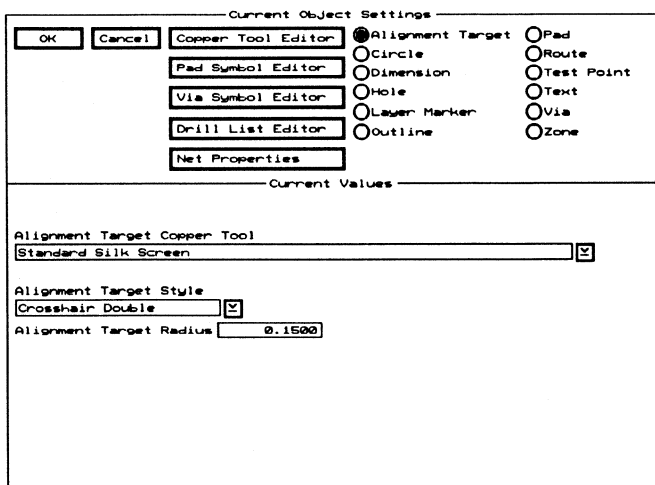

Figure 4-8. The **Current Object Settings** dialog box.
1. Select **Current Settings** in **Global Options**. The **Current Object Settings** dialog box displays (figure 4-8).